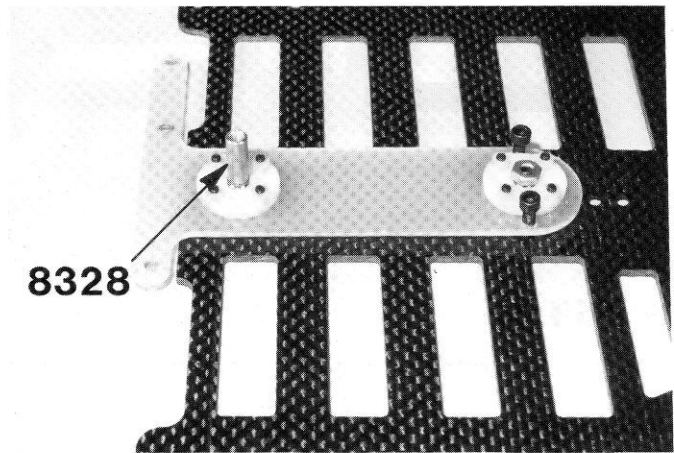

**Fig. 16**
□ **Fig. 16**— Now assemble and mount the second, rear socket assembly like you did the first one. Except in this socket, the ball **MUST BE VERY FREE, BUT NOT LOOSE**. Now see if the ball is **PERFECTLY FREE**. If it is, good, leave it as is. If it's not, there are two things you can do. You can unscrew all four screws one half turn. But the best thing to do is to take the ball back out and polish it. You can do this by placing a 4/40 screw in the ball and securing it with a nut and turning the screw in a drill press, polishing the ball with crocus cloth or #660 wet or dry sandpaper. Re-install the ball and make sure it's **PERFECTLY FREE**, but **NOT LOOSE**.